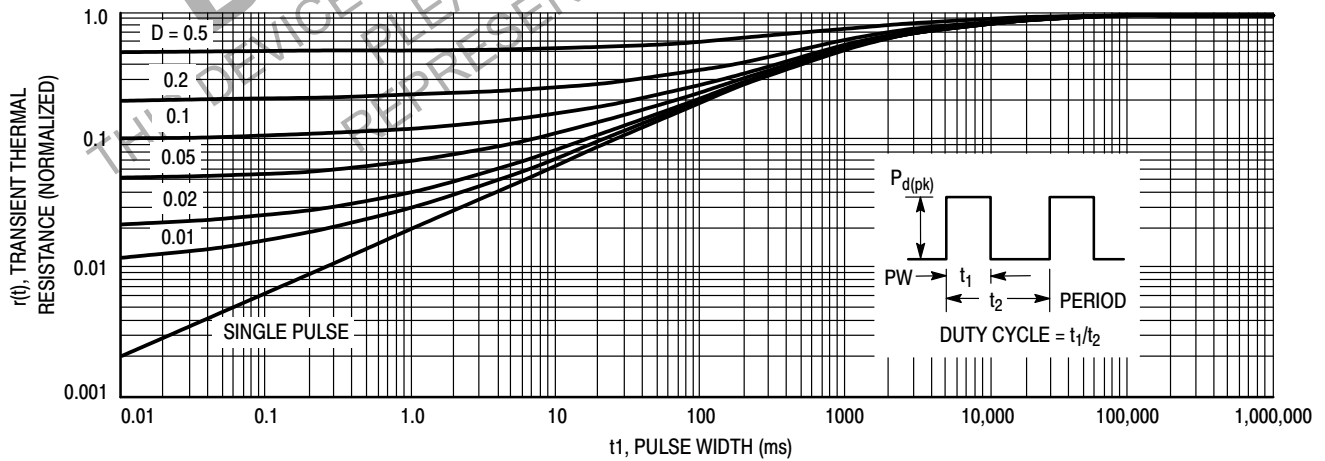

Figure 12. Transient Thermal Response for MDC3105LT1
Figure 12 of the MDC3105 data sheet plots its transient thermal resistance, $r(t)$ as a function of pulse width in ms for various pulse train duty cycles as well as for a single pulse and illustrates this effect. For short pulse widths near the left side of the chart, $r(t)$, the factor, by which the continuous duty thermal resistance is multiplied to determine how much the peak power rating can be increased above the average power rating, approaches the duty cycle of the pulse train, which is the expected value. However, as the pulse width is increased, that factor eventually approaches 1.0 for all duty cycles indicating that the pulse width is sufficiently long to appear as a continuous duty condition to this device. For the MDC3105LT1, this pulse width is about 100 seconds. At this and larger pulse widths, the peak power dissipation capability is the same as the continuous duty power capability.
To use Figure 12 to determine the peak power rating for a specific application, enter the chart with the worst case pulse condition, that is the max pulse width and max duty cycle and determine the worst case $r(t)$ for your application. Then calculate the peak power dissipation allowed by using the equation,
Thus for a 20% duty cycle and a $PW = 40$ ms, Figure 12 yields $r(t) = 0.3$ and when entered in the above equation, the max allowable $P_d(pk) = 390$ mW for a max $T_A = 85^{\circ}\text{C}$.
2. For pulsed operation, use the Transient Thermal Response of Figure 12 and the instructions with it to determine the maximum limit on transistor power dissipation for the desired duty cycle and temperature range.